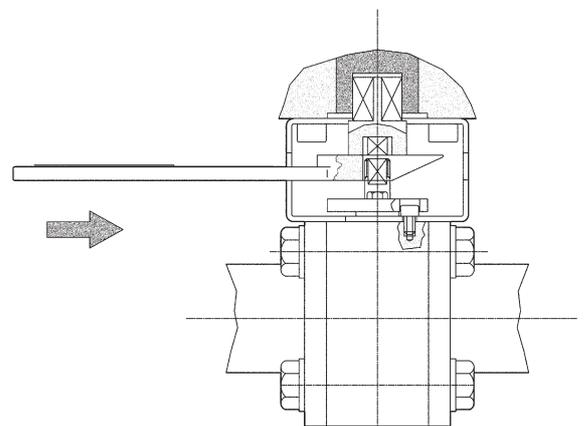

Fig. 957
- Levering, lift the adapter (32) and insert the handle as in Fig. 957. The adapter may be jammed against the actuator housing: a soft blow is enough to release it.